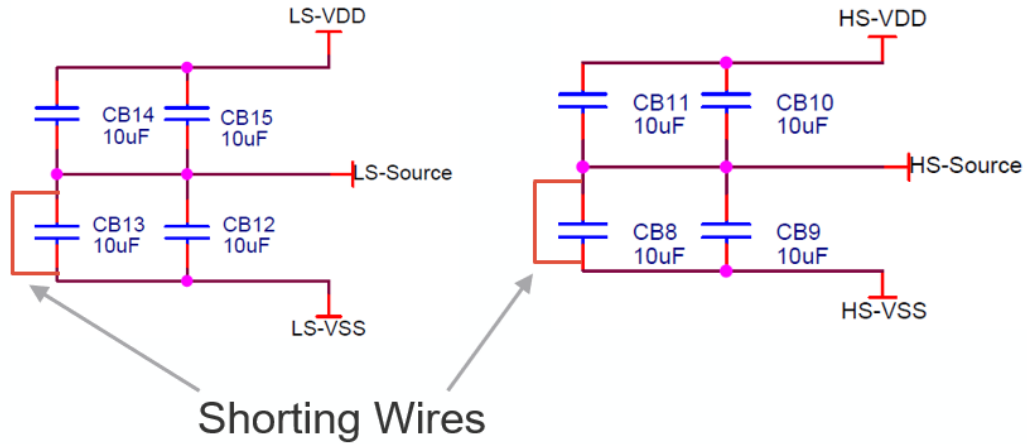

Figure 2. Unipolar drive configuration
3. R12P215S +15V single output for unipolar gate drive. If unipolar gate drive is desired, a 0-ohm resistor or shorting wire must be placed between the Source and VSS rails on both the high-side and low-side. On the low-side, short out CB12 and CB13. On the high-side, short out CB8 and CB9. This is shown in Figure 2 below.